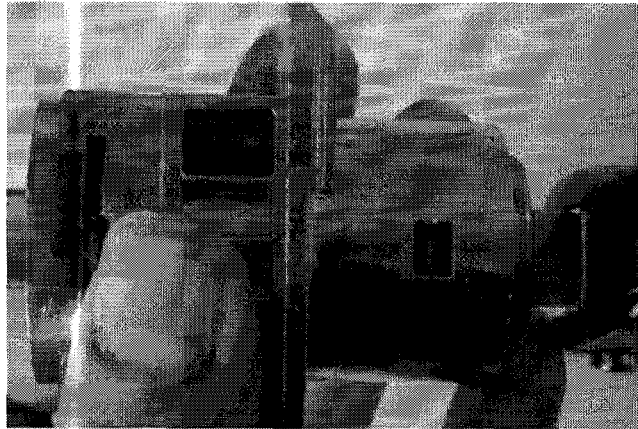

Fig. 8 Retention Test
11. Keeping the cylinder in the released position, slightly pull the key to check if the cylinder is secured in the housing (Fig. 8).